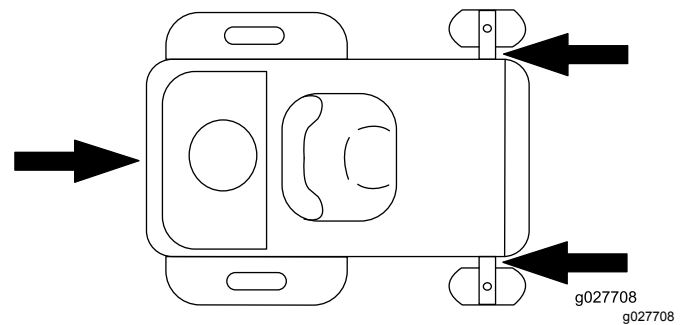

Figure 24
- Securely fasten the machine to the trailer or truck with straps, chains, cable, or ropes. Only use the four designated tie-down locations on the mower—two on the left side and two on the right (Figure 24). Use these locations even when transporting the mower with an attached accessory. Using non-designated locations may cause damage to the mower and/or attachment.